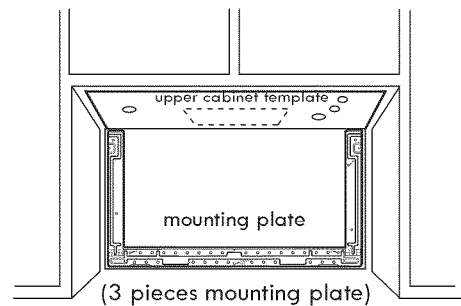

Figure 23
4. Center mounting plate in opening by lining up the plumb line on wall with centerline on mounting plate. Make sure the minimum width is 30 inches and that the top of the mounting plate is located a minimum of 30 inches above the cooking surface. See Figure 23.
5. Measure the bottom of the upper cabinet frame. Trim the edges "A", "B" and "C" on the upper cabinet template so that the template will fit on the bottom of the upper cabinet. If upper cabinet has a recessed frame, trim template so that it fits inside the recessed area. Align the centerline of the upper cabinet template with the centerline of the mounting plate; then securely tape or tack the upper cabinet template in place. See Figure 23.